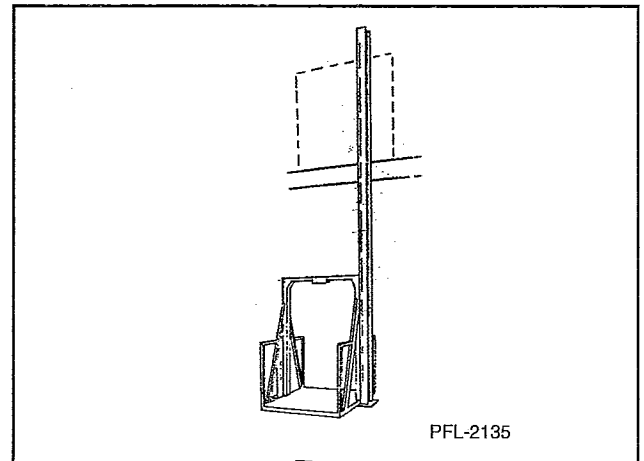

Figure 9
- Raise one column into position. See Figure 9.